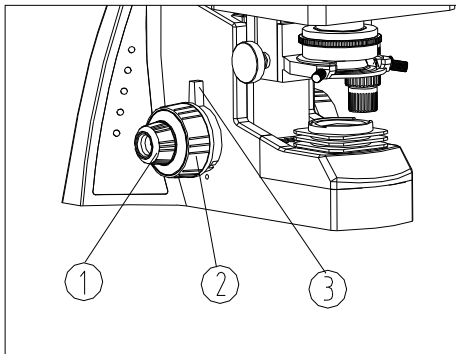

Fig. 18
3.2.3 Focusing the Specimen (Fig.18)